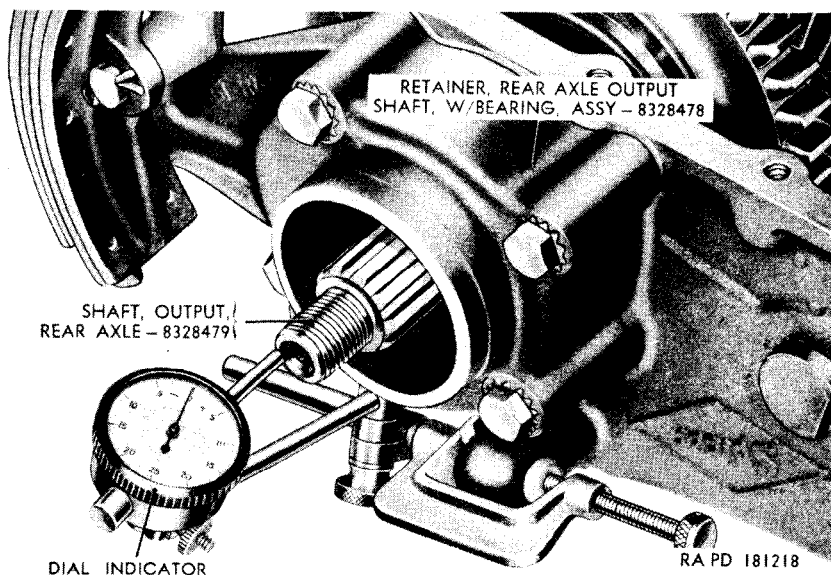

Figure 82. Dial indicator installed.
a. Install Dial Indicator. Assemble dial indicator to transfer case as illustrated in figure 82.